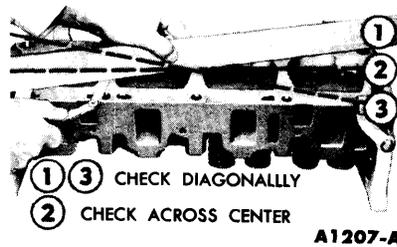

FIG. 29—Cylinder Head Flatness
2. If the cylinder head was removed for a cylinder head gasket replacement, check the flatness of the cylinder head and block gasket surfaces (Fig. 29).
Cylinder Head Flatness. Check the flatness of the cylinder head gasket surface (Fig. 29).